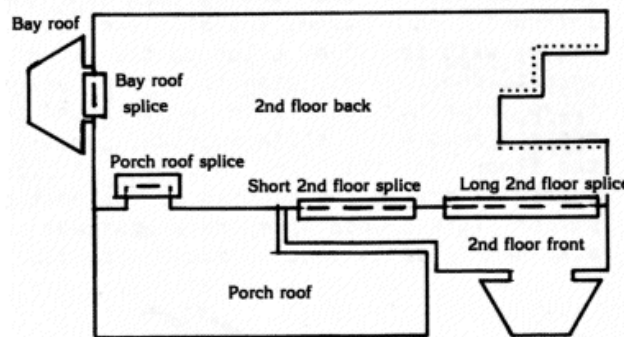

FIGURE 24
2. Lay the floors on the table with the good side down. Glue splices in position as in Figure 24.